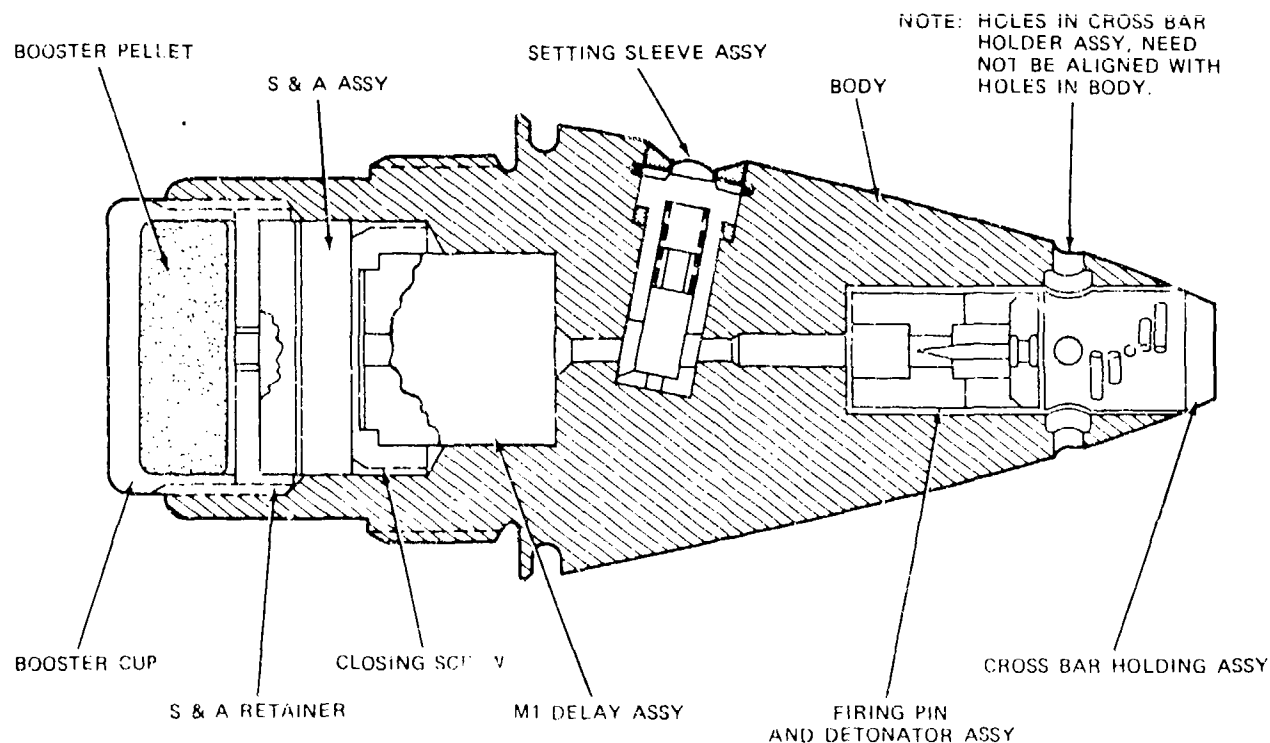

Figure 11-13. Impact point-detonating superquick and delay fuze M739.
(4) *M739 selective fuze.* The M739 fuze (fig 11-13) is the latest improved version of the impact fuze. The new fuze has an aluminum-filled body. In addition, the new fuze has a rain insensitivity modification of the fuzing pin head, recessed  $\frac{3}{4}$  inch into a  $\frac{1}{2}$ -inch diameter sleeve, with four small crossbars installed at different depths and orientations inside this sleeve cavity. These crossbars cause raindrops that enter this sleeve to be atomized into small droplets. These droplets are thrown out of the cavity by centrifugal force and air pressure through four  $\frac{1}{8}$ -inch-diameter radial holes located at the bottom of the sleeve. This